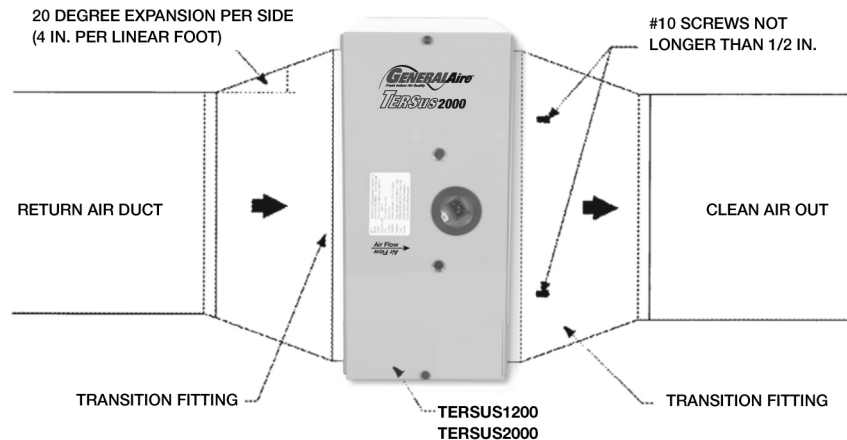

FIG. 7
4. In some cases the foot print of the air handler may be larger or smaller than the outer enclosure of the Tersus Unit. A metal adapter plate of 18 ga. metal should be fabricated to make a suitable transition. (Fig. 7)